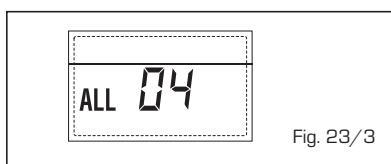

Fig. 23/3
- ANOMALIE SONDE CHAUFFAGE "ALL 05" (fig. 23/4)